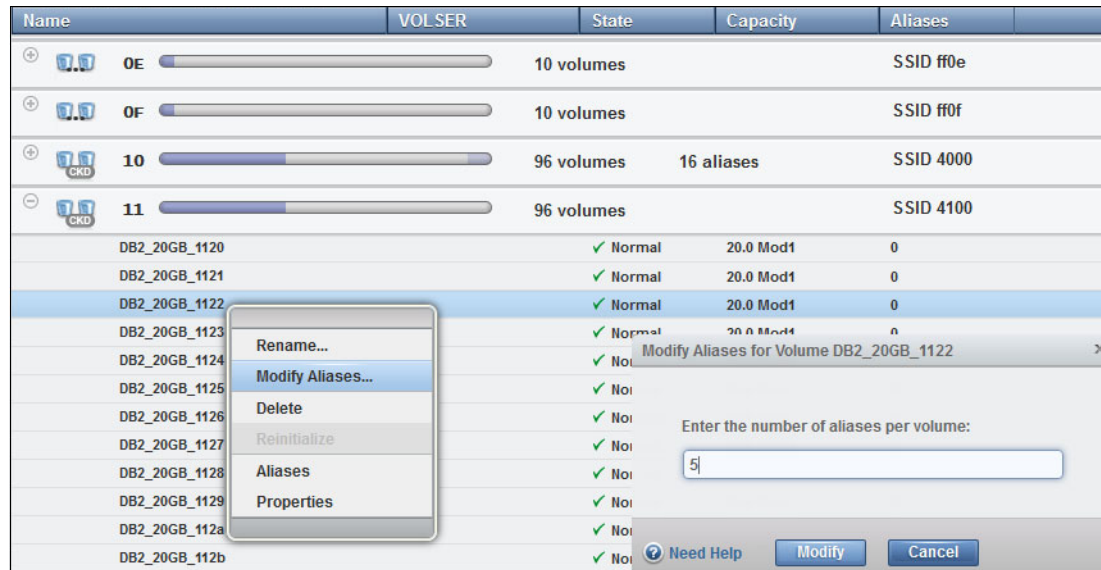

Figure 11-106 Configure aliases for a single base volume
7. Aliases can also be created for a single base volume by selecting the base volume, right-clicking, and selecting **Action** → **Modify Aliases**. Enter the number of aliases that you want for the base volume, as shown in Figure 11-106.